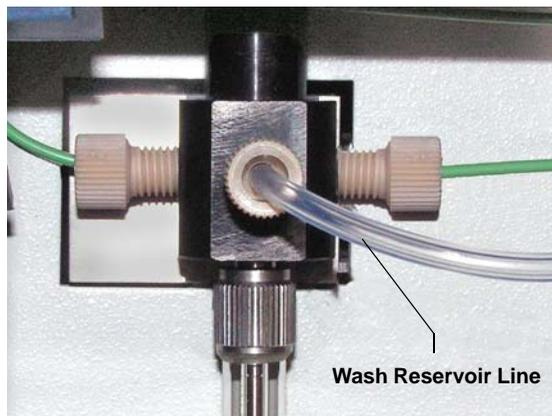

Figure 5-35. Wash Reservoir Line Connected to the Syringe Valve
2. Disconnect the wash reservoir line from the syringe valve (see Figure 5-35).